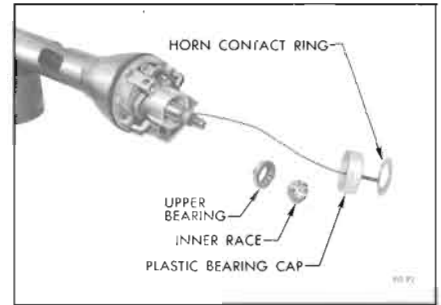

Figure 90-92—Removing Inner Race and Upper Bearing from Upper Portion of Mast Jacket
7. Pry up horn contact ring and plastic bearing cap, and withdraw horn contact ring wire as far as necessary. Lift off inner race and upper bearing (see Figure 90-92).